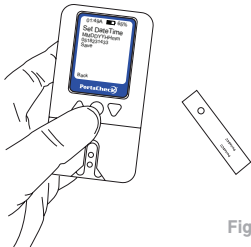

Fig. 1
1. Press the center button to power the PortaReader™ (Fig. 1).